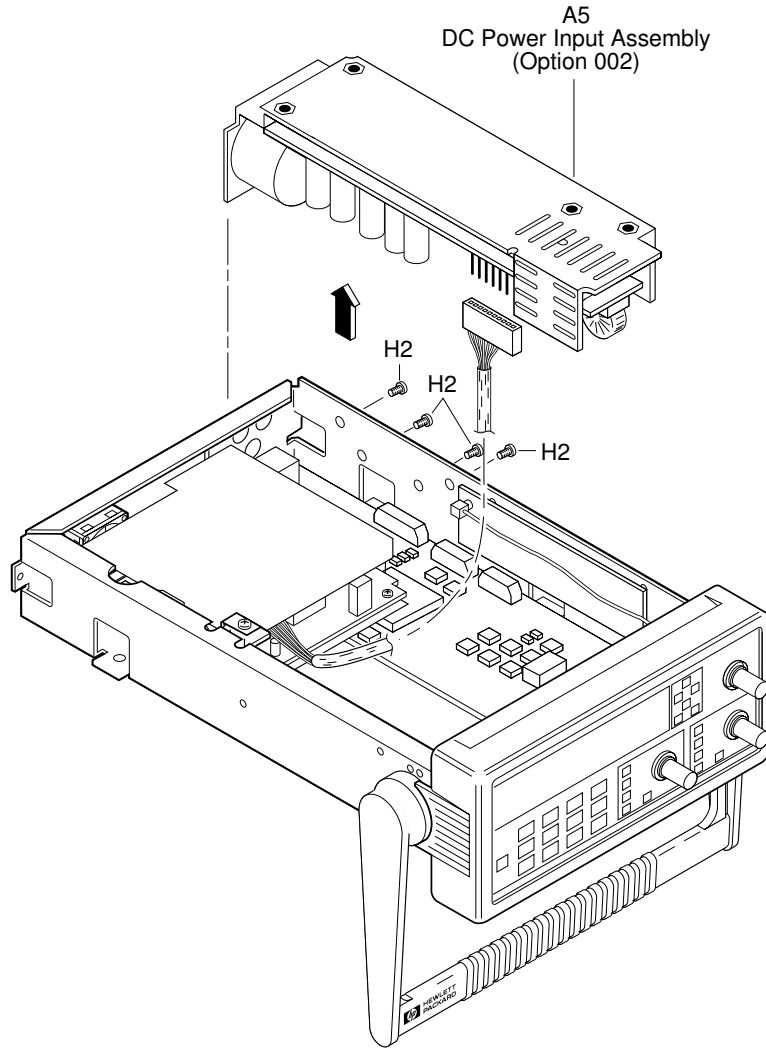

Figure 3-11. DC Power Input Assembly (Option 002) Removal
- 5 If the Counter contains the Option 002 DC Power Input Assembly, disconnect A4 AC Power Supply's other cable from Option 002 as shown in Figure 3-11.
2 Remove the four TORX 10 screws (H2) that attach A5 DC Power Input Assembly to the side of the chassis as shown in Figure 3-11.
- 3 Lift out A5 DC Power Input Assembly and disconnect cable as shown in Figure 3-11.